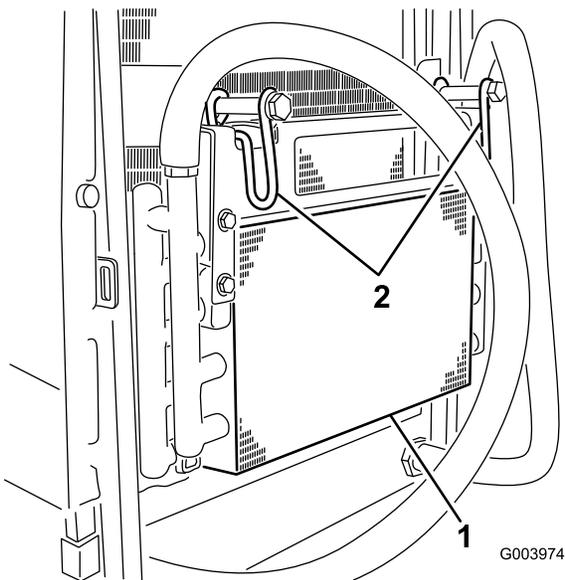

**Figure 62**
6. Thoroughly clean both sides of the oil cooler and the radiator (Figure 62) with compressed air.